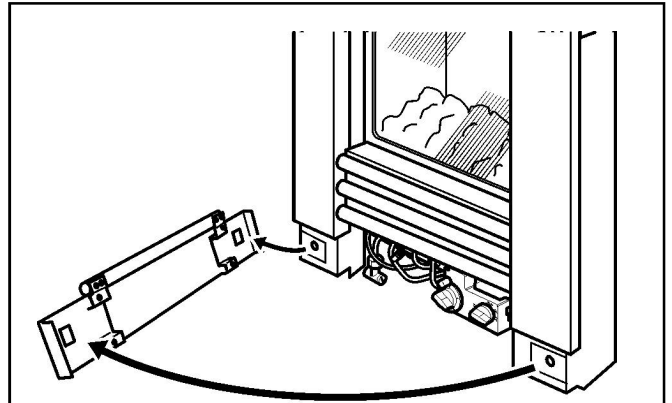

Figure 6. Removing the lower section of the 'Chic' fascia.
- The lower section of the fascia is secured with magnets. Remove this by pulling clear of the fascia (See figure 6).